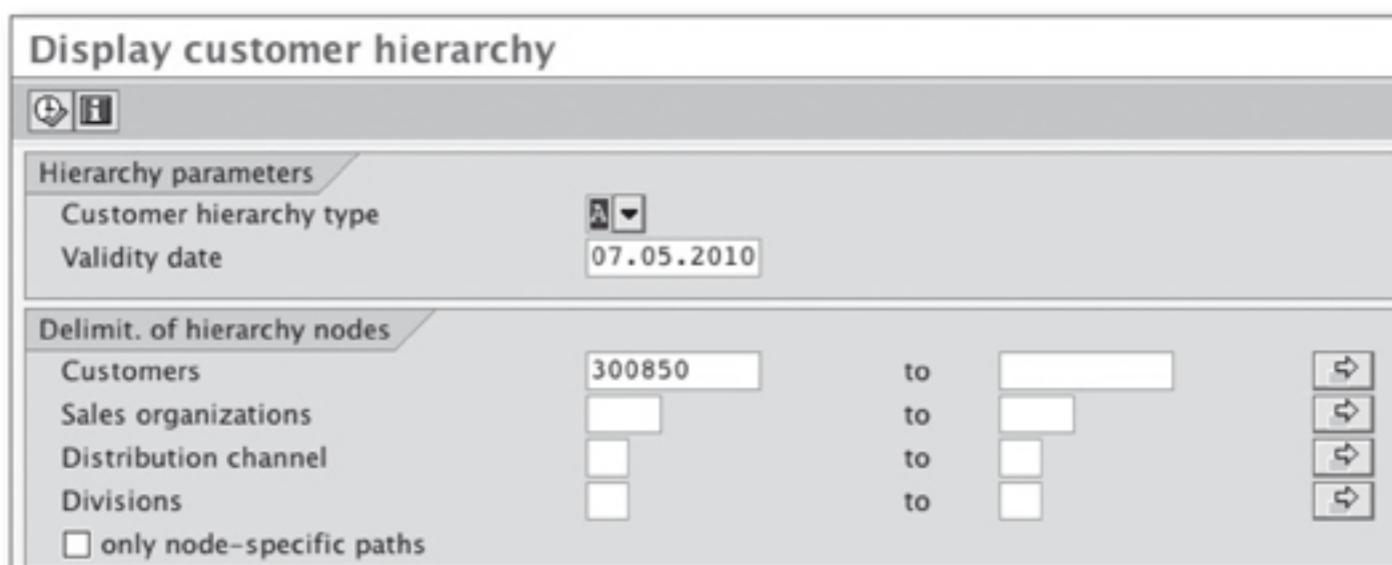

Figure 6.1 Display Customer Hierarchy
1. Select Customer Hierarchy Type A for the standard hierarchy, as shown in Figure 6.1.